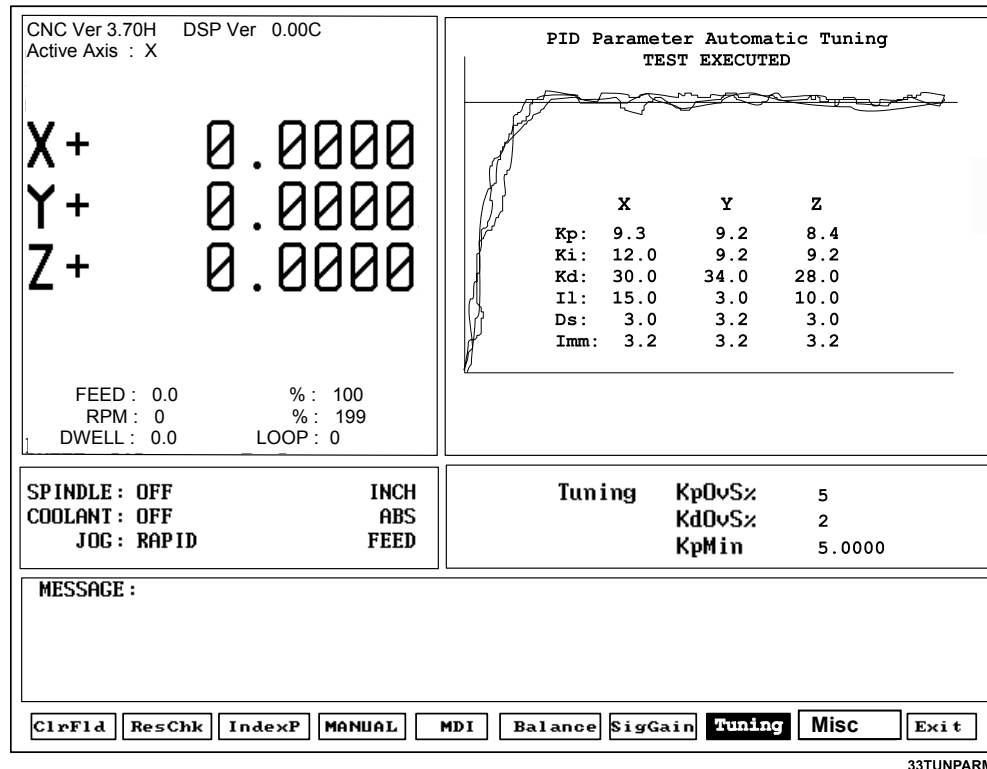

Figure 21, Tuning Parameters Test Results Screen
The Tuning function can determine optimum values within constraints you specify. The default values are usually correct for most machines. To fine-tune, enter values manually or use this test. Refer to **Figure 21, Tuning Parameters Test Results Screen**.
6. Refer to **Figure 21, Tuning Parameters Test Results Screen**. After the test, the CNC plots the final step responses for all axes tested, and displays them in the graphics area of the screen.
1. Refer to **Figure 21**. After the Tuning Test, the results are displayed in the Graphics Area of the screen. Press **TUNING (F8)** and highlight **Save Results**.